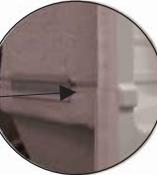

FIGURE 10
5. Lock the system by applying moderate pressure from the upper portion of the mid-section, lock with the back snap first then followed by the two side snaps. When in locked position the two sections should align and fill the gap as shown in Figure 10. If there is a gap at the seam, then unlock and adjust the section to ensure centering to minimize the gap.
7. A bead of mildew resistant bathroom silicone caulk should be applied to the back side of the top and bottom joint to form a moisture barrier. See Figure 10.